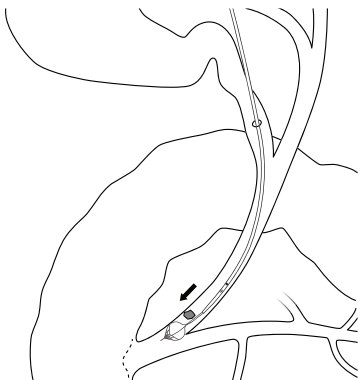

Fig. 3
3. After confirming the stone extractor sheath is positioned alongside or beyond the stone (or debris), open the stone extractor by sliding the thumb tab to the 'OPEN' position. **(Fig. 3) CAUTION:** Avoid deploying the stone extractor in the ampulla of the distal CBD.